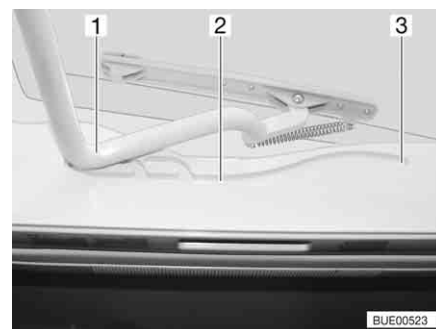

Fig. 97 Heki skylight, guide
- Pull the bar (Fig. 97,1) in the guides (Fig. 97,2) to the rearmost position (Fig. 97,3).
- Use both hands to push the bar (Fig. 97,1) slightly upwards.
- Pull the bar in the guides (Fig. 97,2) to the desired position.